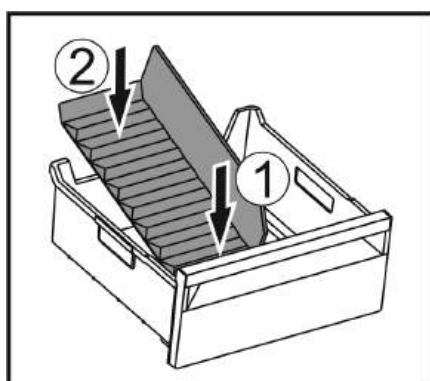

Fig. 142
- ▶ Insert the front part of the ice compartment divider. Fig. 142 (1)
- ▶ Lower the rear part of the ice compartment divider to the drawer bottom. Fig. 142 (2)